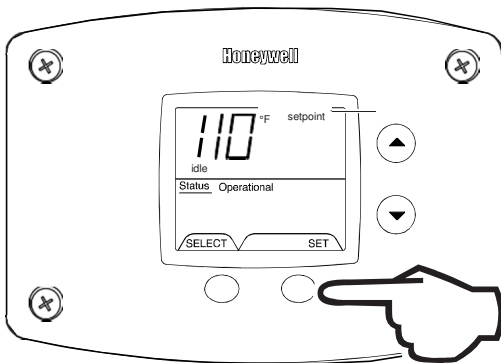

Fig. 53
5. When the desired setpoint is reached on the water heater display, press the 'Set' button to confirm the new setpoint. 'Setpoint' stops flashing in the water heater display (Fig. 53).